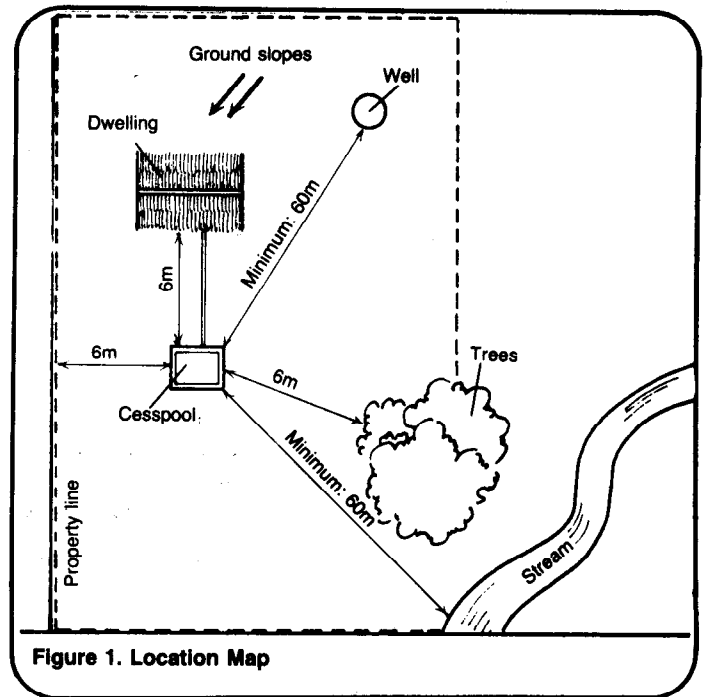

Figure 1. Location Map
1. Location map similar to Figure 1 showing the cesspool in relation to water supplies, dwellings, streams, trees, and property lines,